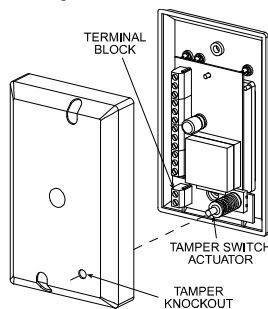

Fig. 5 - Tamper Sw. Installation
B. To protect the indoor keypad if tampering is attempted by removing the unit from the wall or by removing the front of the case. This is accomplished by opening the tamper knockout in the back box, allowing the tamper actuator to extend out of the back box and contact the wall (see Fig. 5).